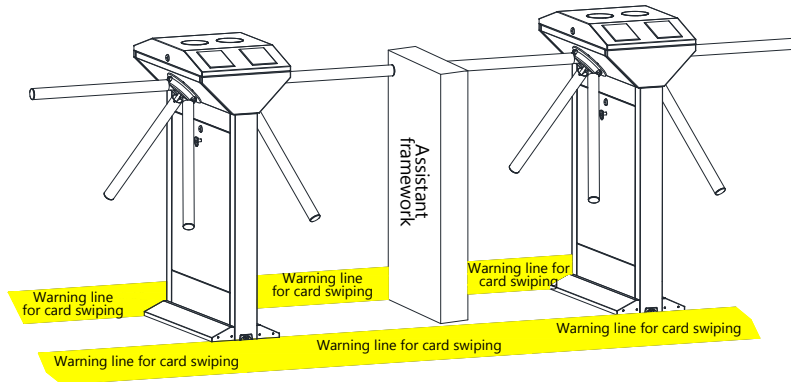

Figure 3-2
2. Setting a warning line for card swiping (see figure 3-2). A warning line is suggested to prompt users to swipe cards in a distance, which would greatly reduce the probability of equipment failure caused by improper operations.